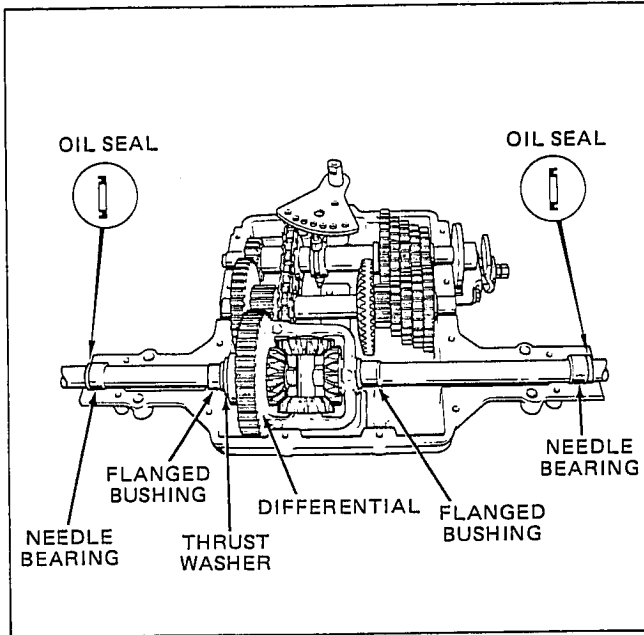

Figure 3-35
Install the flanged bushings (2) flat washer, needle bearings (2) with oil seals (2) with seal grooves facing out. Figure 3-35.
9. Install shifter assembly, Figure 3-35, (shaft, pins and fans). Pack 24 oz. E.P. Lithium grease around bearings and gearing, and reinstall cover on case. Torque cap screws 90-100 inch pounds.